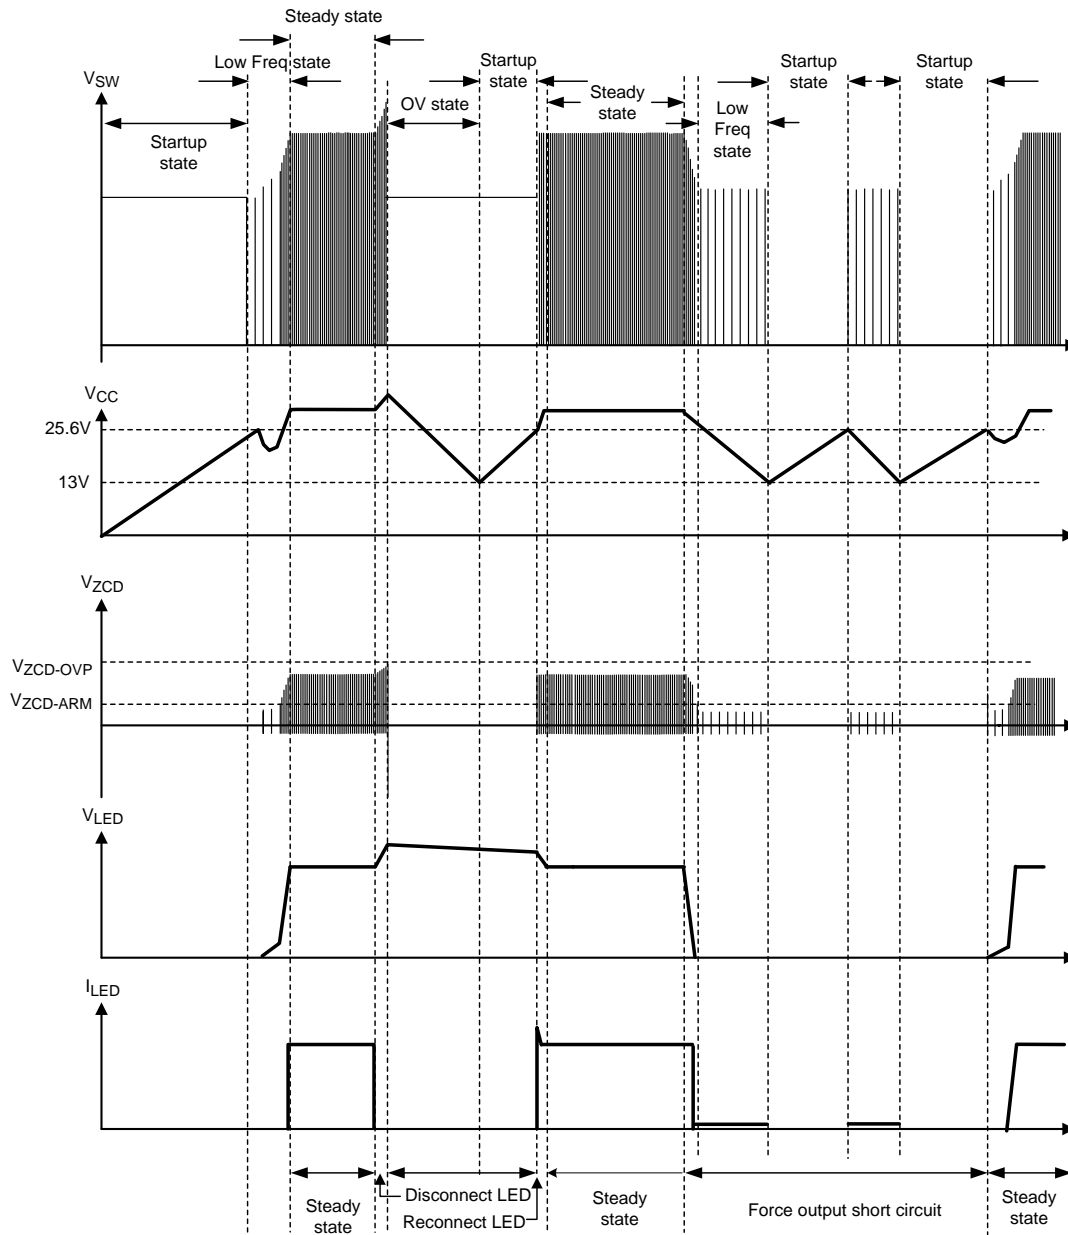

Figure 20. Auto Restart Operation
If the LED string is disconnected,  $V_{LED}$  increases and thus  $V_{ZCD-PEAK}$  increases. When  $V_{ZCD-PEAK}$  is larger than  $V_{ZCD-OVP}$  for 3 continuous switching cycles, the Over Voltage Protection (OVP) feature is triggered such that the TPS92310 becomes Over-Voltage (OV) state. In this case, the switching of  $Q_1$  is stopped, and  $V_{CC}$  decreases owing to the power consumption of the internal circuits of the TPS92310. When  $V_{CC}$  drops below the falling threshold of  $V_{CC-UVLO}$ , the TPS92310 restarts, and re-enters into startup state (Figure 20).